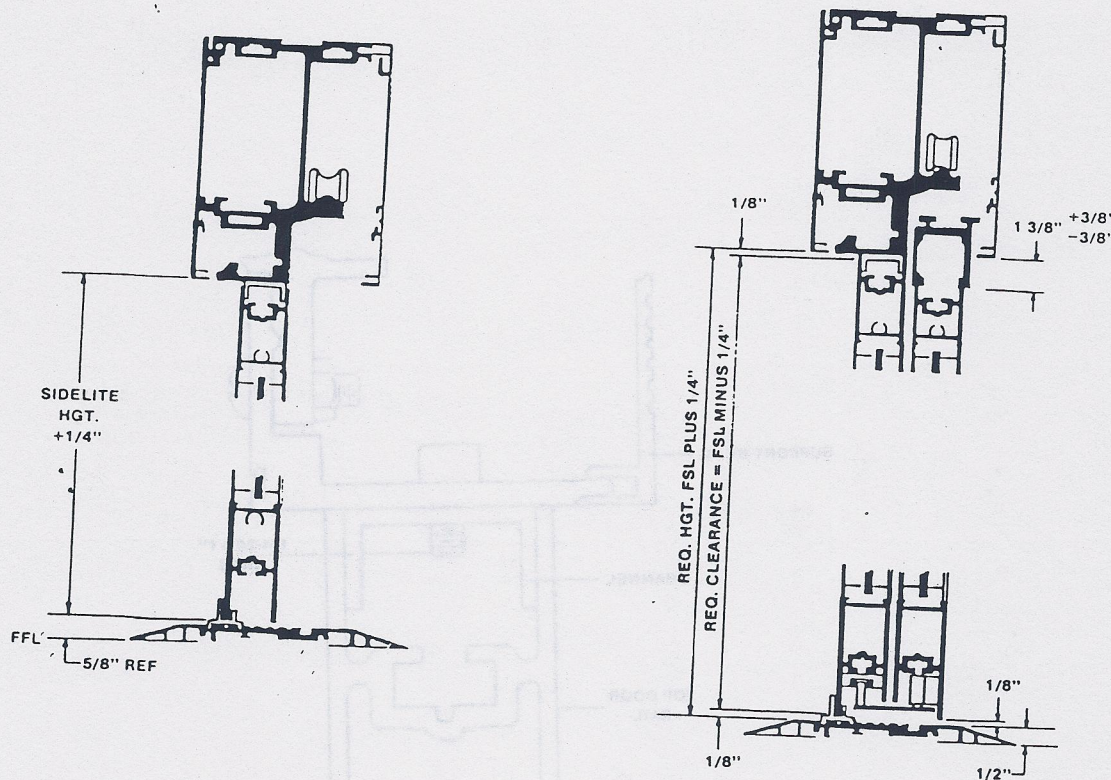

Fig. 45
Check to see that the distance between the bottom of the support beam and the sidelite threshold adapter is sufficient enough (see fig. 45) to accept the sidelite height. Make adjustments to the adapter if necessary. Check the guide track (located in the bottom horizontal web) to make sure it is secure. Check to see that the aluminum channel (4) which secures the top of the sidelite (located in the top of the sidelite) to the bottom of the support beam is installed.